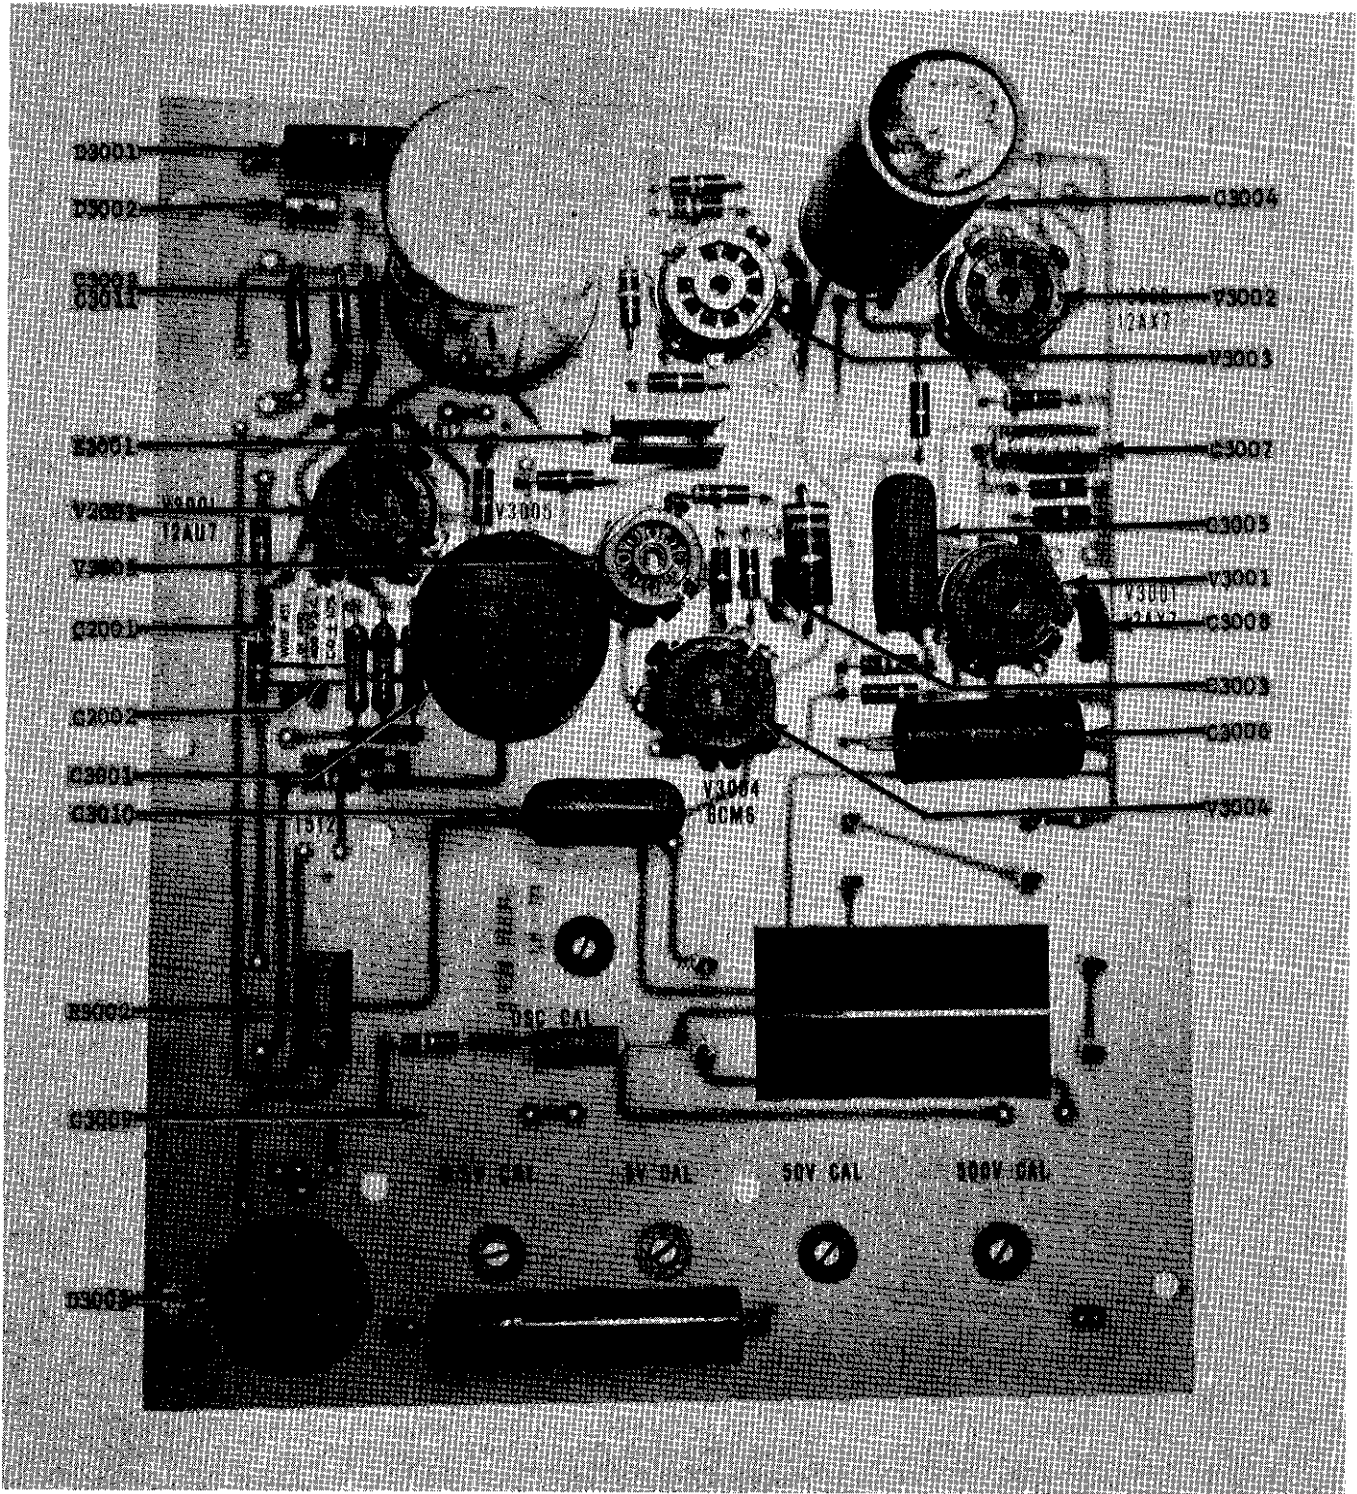
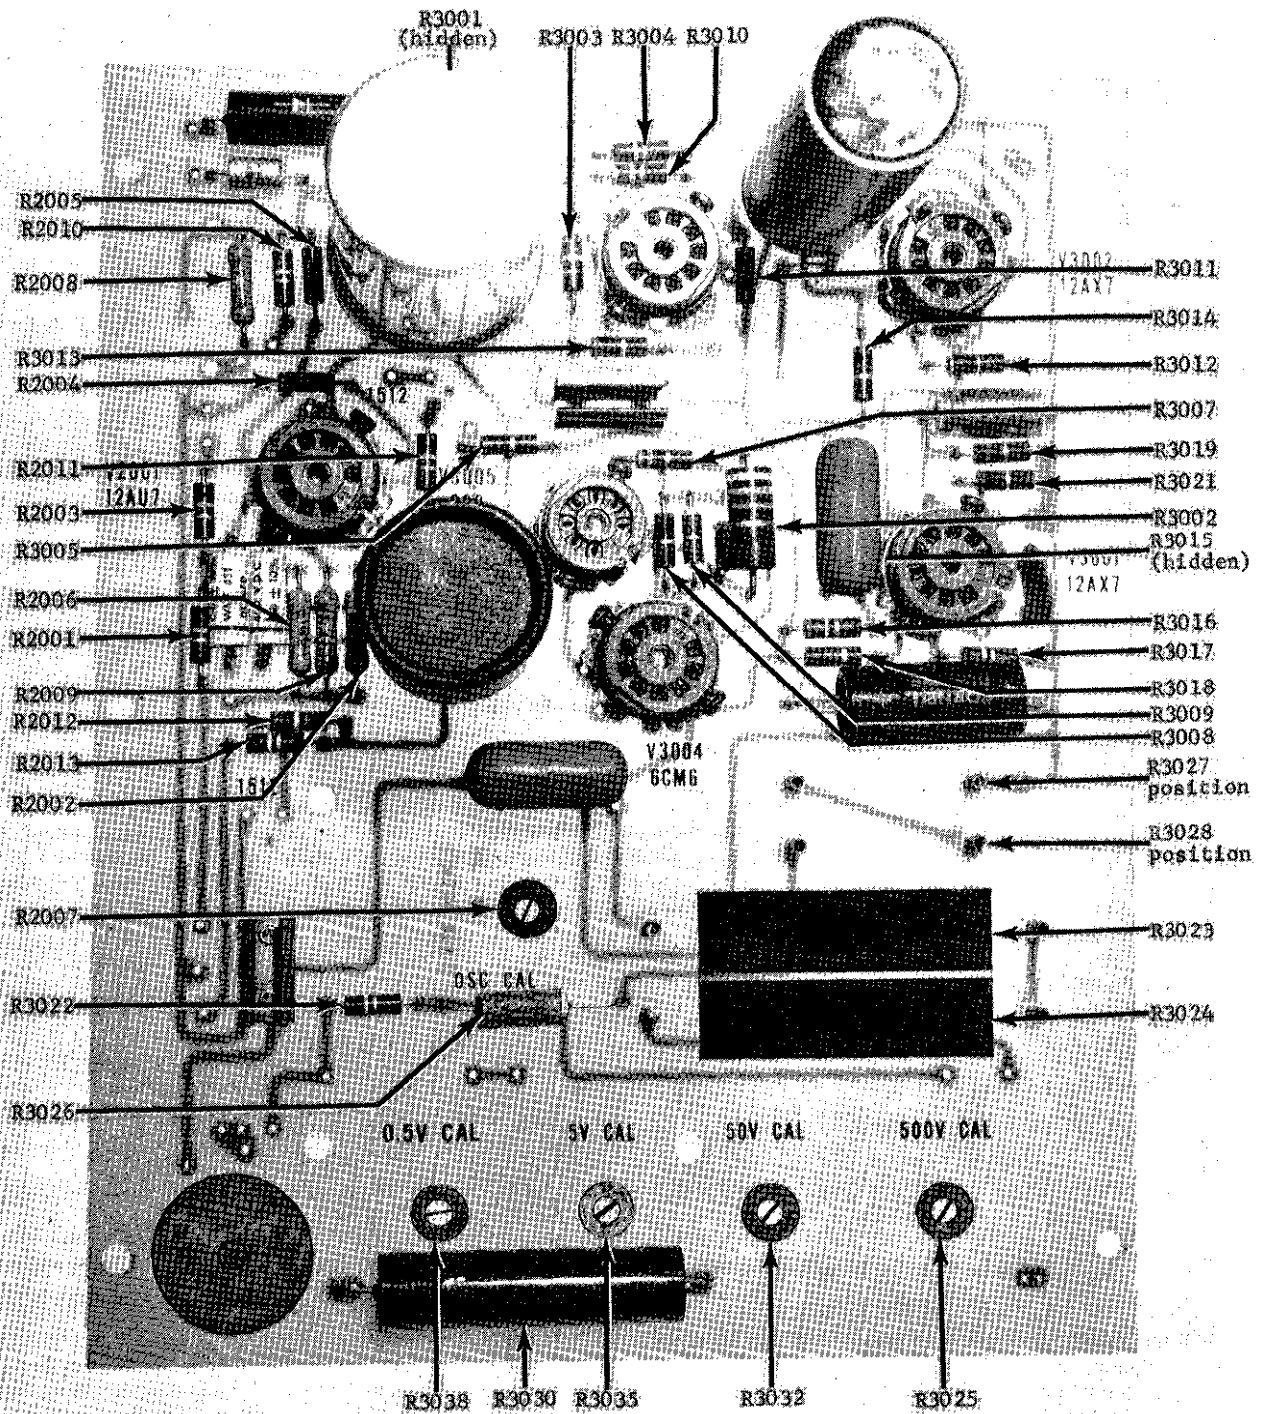

FIGURE 19. Capacitor, Modulator, Diode and Tube Locations on Printed Circuit Board PC92. Refer to Figure 20 for the resistor locations.
FIGURE 20. Resistor Locations on Printed Circuit Board PC92. Refer to Figure 19 for the location of other components.
a. The reference voltage supply has a 500-volt output which can be attenuated to 50, 5 or 0.5 volts. This voltage is then divided by the Kelvin-Varley divider to provide the accurate buckout voltage. Each of the four voltage ranges is set by internally adjusting potentiometers R3025, R3032, R3035 and R3038 (Figure 20).
Adjust the Voltage Calibrator to apply 500 volts dc to the Model 660A. Turn the Model 660A NULL Switch to 10 MV and adjust the 500 V CAL potentiometer, R3025 (Figure 20), for null on the Differential Voltmeter.
Adjust the Voltage Calibrator to apply 50 volts dc to the Model 660A. Adjust the 50 V CAL potentiometer, R3032 (Figure 20), for an off-null reading on the Model 660A equal to the correction factor at 50 volts.
Adjust the Voltage Calibrator to apply 5 volts dc to the Model 660A. Adjust the 5 V CAL potentiometer, R3035 (Figure 20), for an off-null reading on the Model 660A equal to the correction factor at 5 volts.
Adjust the Voltage Calibrator to apply 0.5 volt dc to the Model 660A. Adjust the 0.5 V CAL potentiometer, R3038 (Figure 20), for an off-null reading on the Model 660A equal to the correction factor at 0.5 volt.
2. Connect the Model 150A and the recorder as shown in Figure 11. Set the Model 150A to the 3-volt range. Advance the Model 660A POLARITY Switch to + to put 500 volts across the divider. If the Model 150A reads two volts, the standard cell and the divider voltages are improperly connected in series. If the circuit is correct, the Model 150A will read zero. Increase the Model 150A's sensitivity to the 0.1-millivolt range. If it reads more than 20 microvolts, adjust the 500 V CAL potentiometer, R3025 (Figure 20), shunting the divider.
b. Connect the Type 503 Oscilloscope Vertical Input to the plate and low side of tube V2001 (Figure 19) and the Horizontal Input to the Model 200CD Oscillator. Adjust the oscillator frequency to approximately 42 cps with potentiometer R2007 (Figure 20). The Model 660A oscillator is then adjusted for minimum meter noise — normally within a cycle of 42 cps. Disconnect the Oscilloscope before adjusting potentiometer R2007. The Oscilloscope will cause a small loading error.